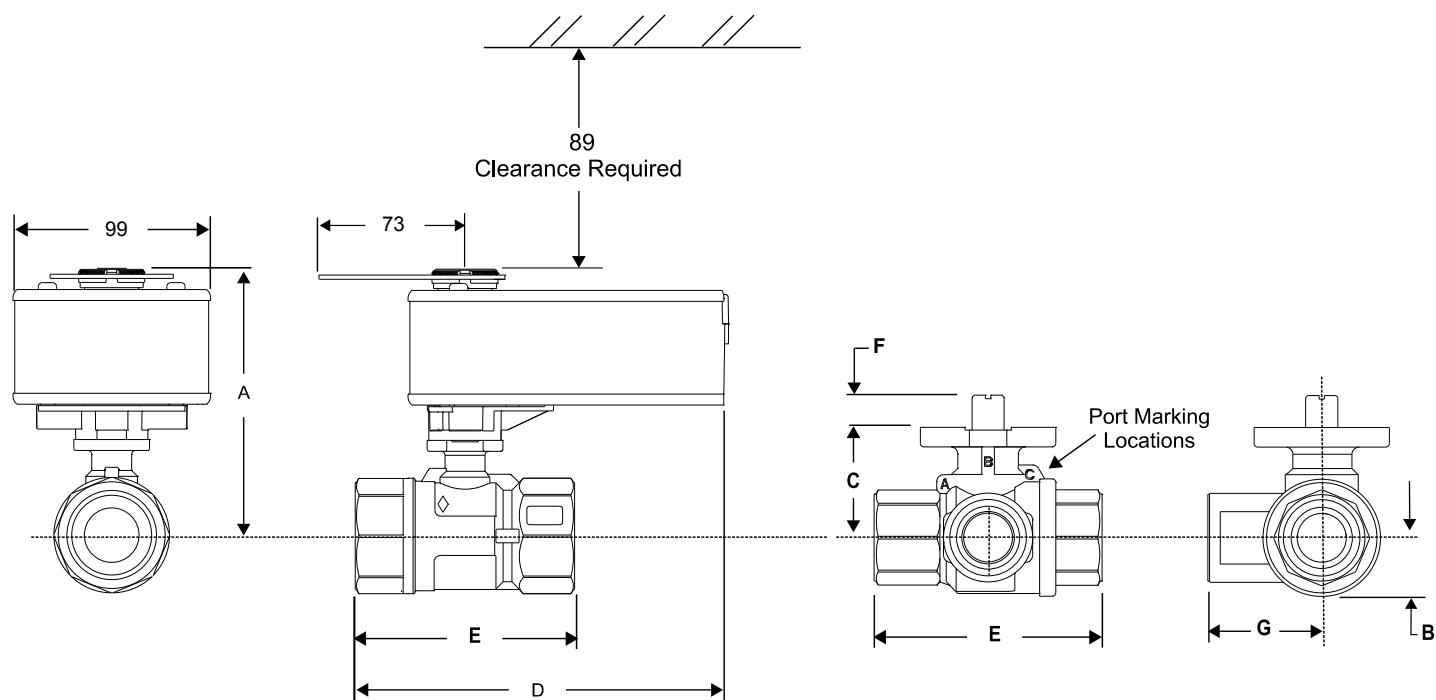

Figure 10: Spring Return BxFx.08(S) Actuated JV205 and JV305 Series Ball Valve Dimensions, in mm
See Table 1 and Figure 10 for the dimensions of the BxFx.08(S) Series Actuated Ball Valves.